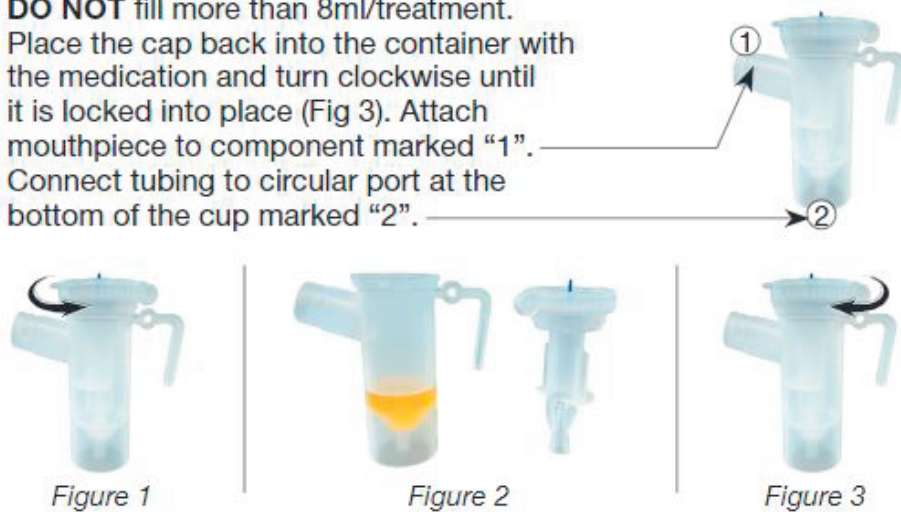

Figure 5
8. If using reusable jet nebulizer reference Figure 5 for instructions.